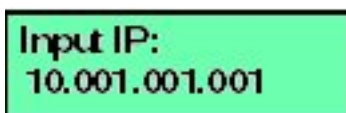

Figure 3.21. LCD Panel (LAN 2 IP Address)
4. Press **ENTER** and the following message displays (Figure 3-21) with the current LAN2 IP address. (The default is 10.1.1.1).